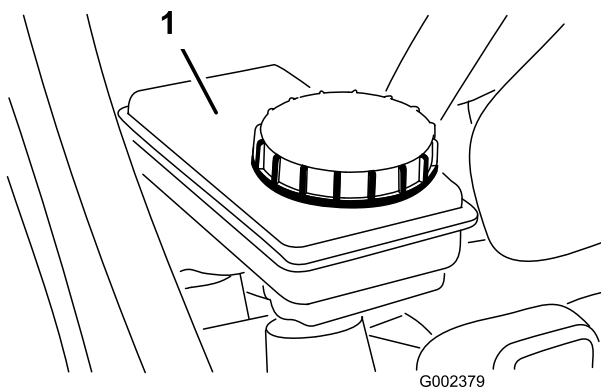

Figure 23
2. The fluid level should be up to the Full line on the reservoir (Figure 23).